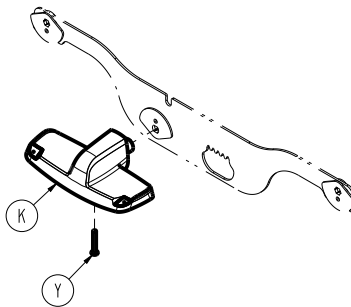

Figure 10 – Brake/steer pedal replacement
4. Using a ratchet and a T30 Torx driver, remove the screw (Y) that secures the brake/steer pedal (K) to the brake shaft (Figure 10). Remove the pedal.